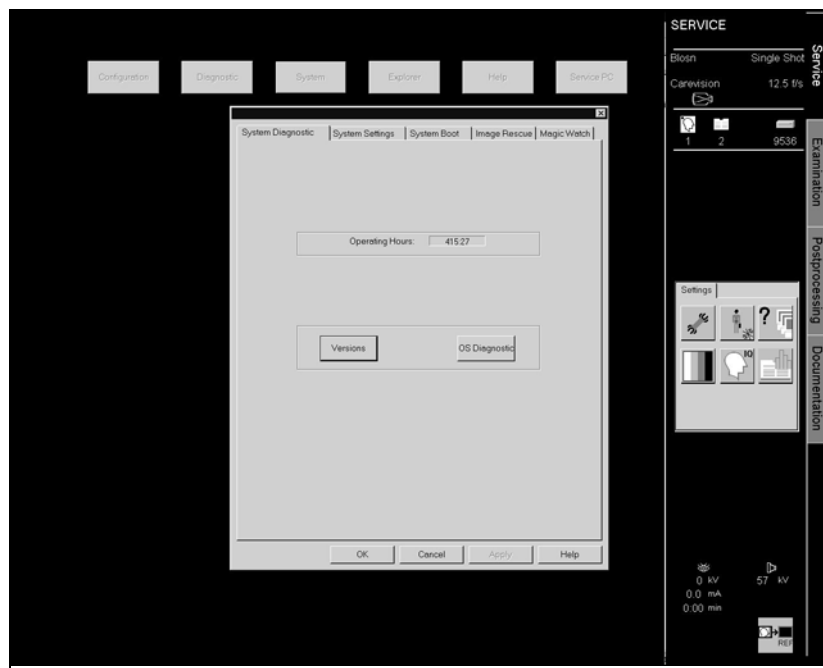

Fig. 16
- Select the subtask card "System settings" (Fig. 16).